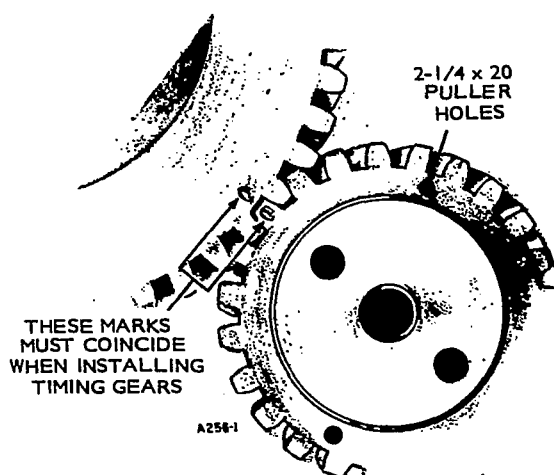

FIGURE 83. TIMING MARKS
4. Install camshaft assembly in engine. Align timing marks on camshaft gear and crankshaft gear (Figure 83).